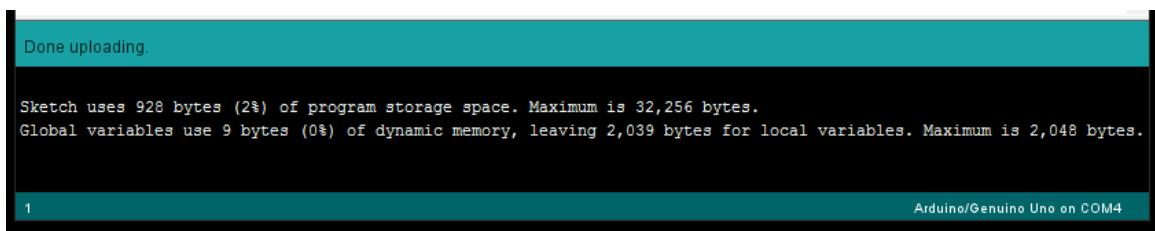

Figure 2: Arduino console showing a successful program upload
- 3) After your program has uploaded on the board you should see output similar to Figure 2 in the console.